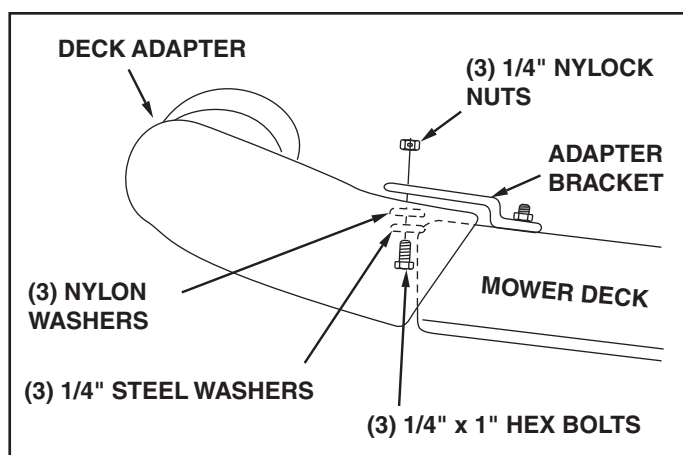

FIGURE 17
- With deck adapter positioned correctly over the discharge opening, use the adapter bracket as a template and drill three 9/32" diameter holes in the top of the deck adapter. See figure 17.
- Bolt deck adapter to bracket using three 1/4" x 1" bolts, nylon washers, 1/4" flat washers and 1/4" lock nuts. Nylon washers should be against the inside of the deck adapter. See figure 17.